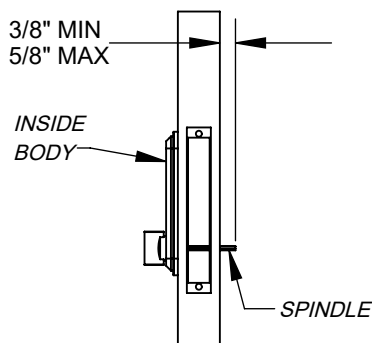

Figure 11
- 6) To verify correct spindle length, hold inside body to the door (Figure 11). Place the 40MM-55MM spindle through the spindle hole of the lock assembly. **Spindle should extend from exterior of door 3/8" min. to 5/8" max.** If the spindle is too long, use the shorter spindle and measure again or cut it to the correct length using pliers.